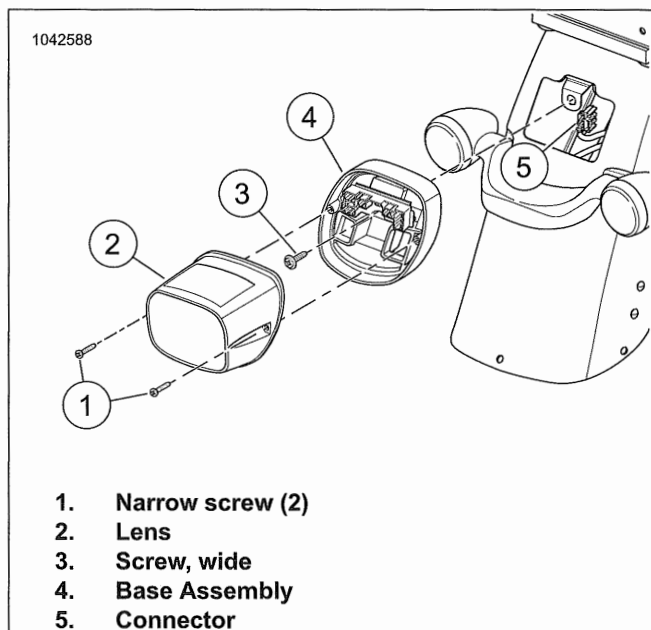

Figure 7-85. Standard Tail Lamp
- See Figure 7-85. Remove narrow screws (1).
- Remove lens (2).
- Remove wide screw (3).
- Remove base assembly (4).
- Disconnect connector (5).
- See Figure 7-85. Connect connector (5).
- Install base assembly (4).
- Install wide screw (3). Tighten.